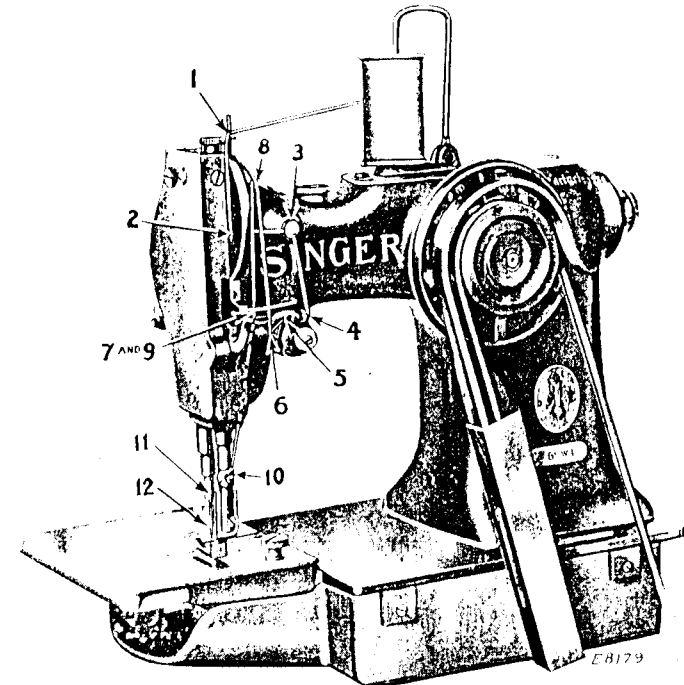

Fig. 3
(See Fig. 3)
through the hole (2) in the thread take-up guard, over the top into the thread retainer (3), down, under and toward you between the tension discs (4), up into the fork (5) above the tension discs, into the hook of the wire controller spring (6), up through the wire guide (7), and toward you through the hole (8) in the end of the thread take-up lever, down through the wire guide (9), through the thread guide (10) on the presser bar, as indicated by the dotted line in Fig. 3, through the thread guide (11) at the lower end of the needle bar and toward you through the eye of the needle (12). Draw about three inches of thread through the eye of the needle with which to commence sewing.
The pressure is regulated by turning the thumb screw at the top of the arm head into which the presser bar passes (Fig. 3).